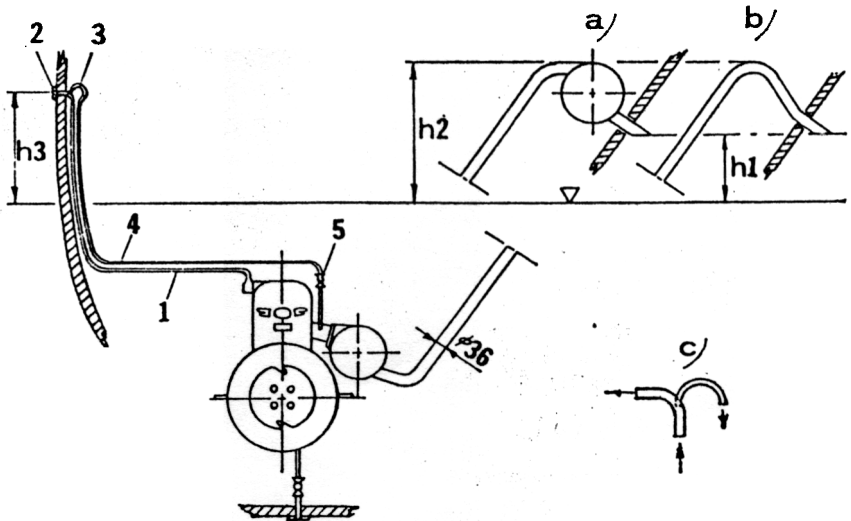

Figure 1 Cooling system
Use exhaust piping having an inside bore of 32 mm ( $1\frac{1}{4}$ " ). The exhaust outlet must be situated well above the waterline and the exhaust pipe should slope towards the outlet from a point as high as possible in the craft. The highest point should be in the form of a "swan neck" (see h2 fig. 1.)
With reference to fig. 1. the control cock is disconnected from the cylinder jacket inlet union and connected to the discharge water skin fitting (2) via a branch piece (3) above the waterline (h3). Then should the control valve be left open, on stopping the engine, no flooding can occur.